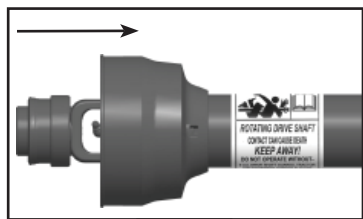

FIG. 8
STEP 12: Make sure the tractor engine is shut off, then connect the driveline to the tractor PTO. The driveline locks on with a retractable retaining ring coupling device. Slide the ring back for installation (see FIG. 8). Make sure the retracted retaining ring is snapped back and locked on the tractor PTO.